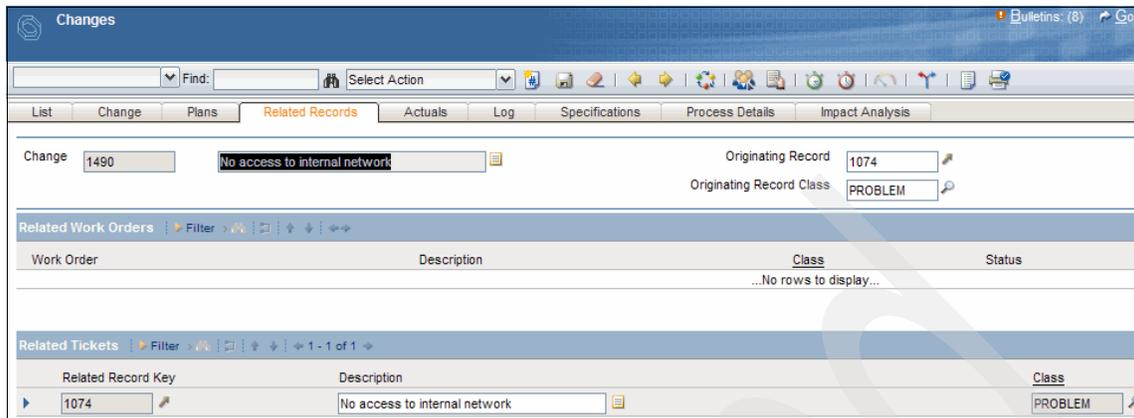

Figure 6-11 Related Tickets panel
5. From this point forward, the Change Manager takes over the ticket. Navigating through the change window, go to the **Related Records** tab. You are able to see all related tickets, which are the tickets that originated from or are related to this change, as shown in Figure 6-11 on page 199. Relating incidents with change records provides significant value for both the Incident Management and Change Management disciplines.